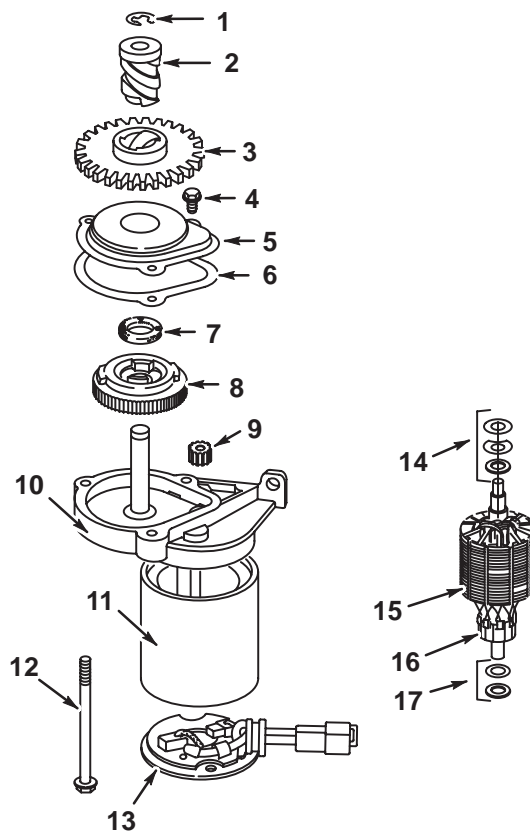

Fig. 96 – Exploded View
1. Study Fig. 96 prior to starter motor disassembly.